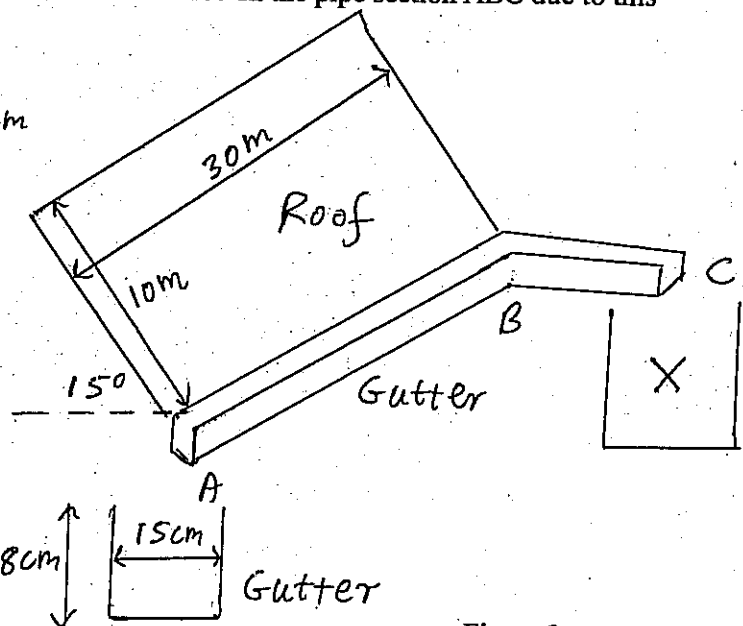

Figure 3
3) The roof of a building is drained by a gutter, ABC to a water tank, as shown in Figure 3. The roof is at an angle of 15 degrees to the horizontal and the dimensions of the roof are shown in the figure. The gutter has a rectangular cross-section, with a width of 15 cm and a height 8 cm. The slope of the gutter is 0.015 and the Manning's coefficient of the gutter is 0.01.